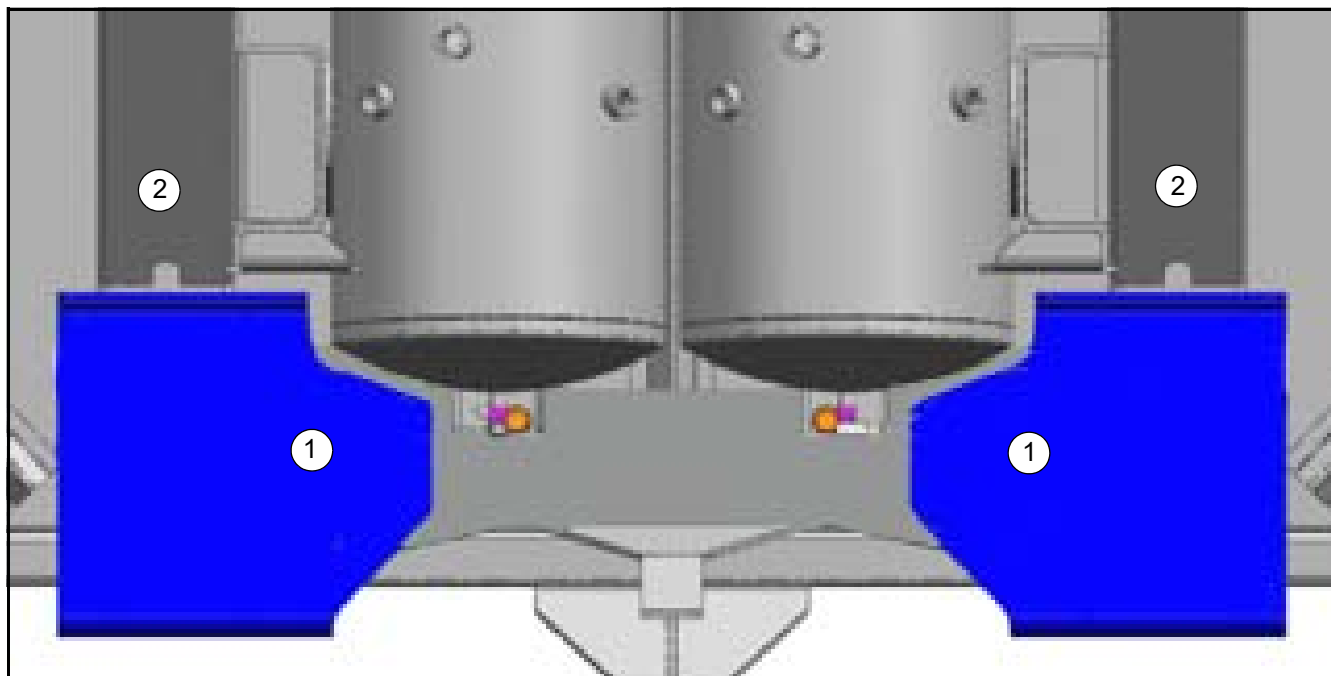

Figure 12.
22. Orient the sway bar brackets, p/n 12-05-1376 and 1377, with the drilled holes against the bogie leg as shown in Figure 12. Using a marker, mark an outline around the complete sway bar brackets (curbside and roadside).
Item	Figure 12 Description